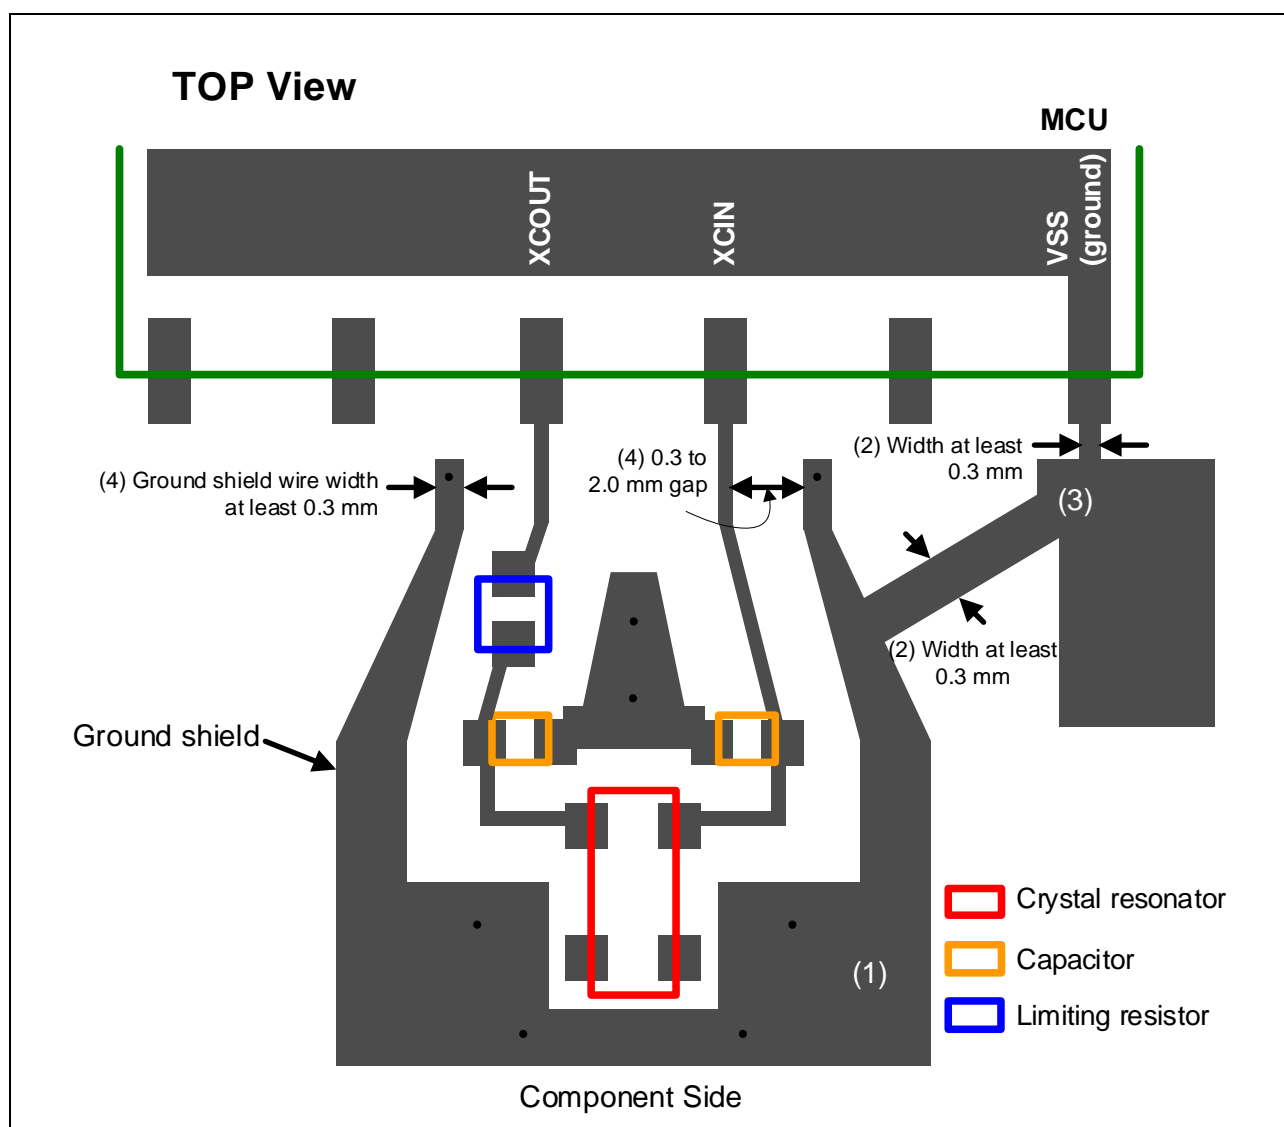

Figure 3.8 Trace Example for the Ground Shield
Shield the crystal resonator with a ground trace. (1) to (4) below describe the points regarding the ground shield, and Figure 3.8 shows a trace example.
(1) Lay out the ground shield on the same layer as the crystal resonator wiring.
(2) Wire the ground shield as close to the VSS pin on the MCU as possible, and ensure that the wire width is at least 0.3 mm.
(3) To prevent current from running to the ground shield, branch the ground shield and the ground on the board near the VSS pin on the board.
(4) Make the ground shield wire width at least 0.3 mm, and leave a 0.3 to 2.0 mm gap in between wires. Do not cross the XCIN and XCOUT wires with other signal wires.